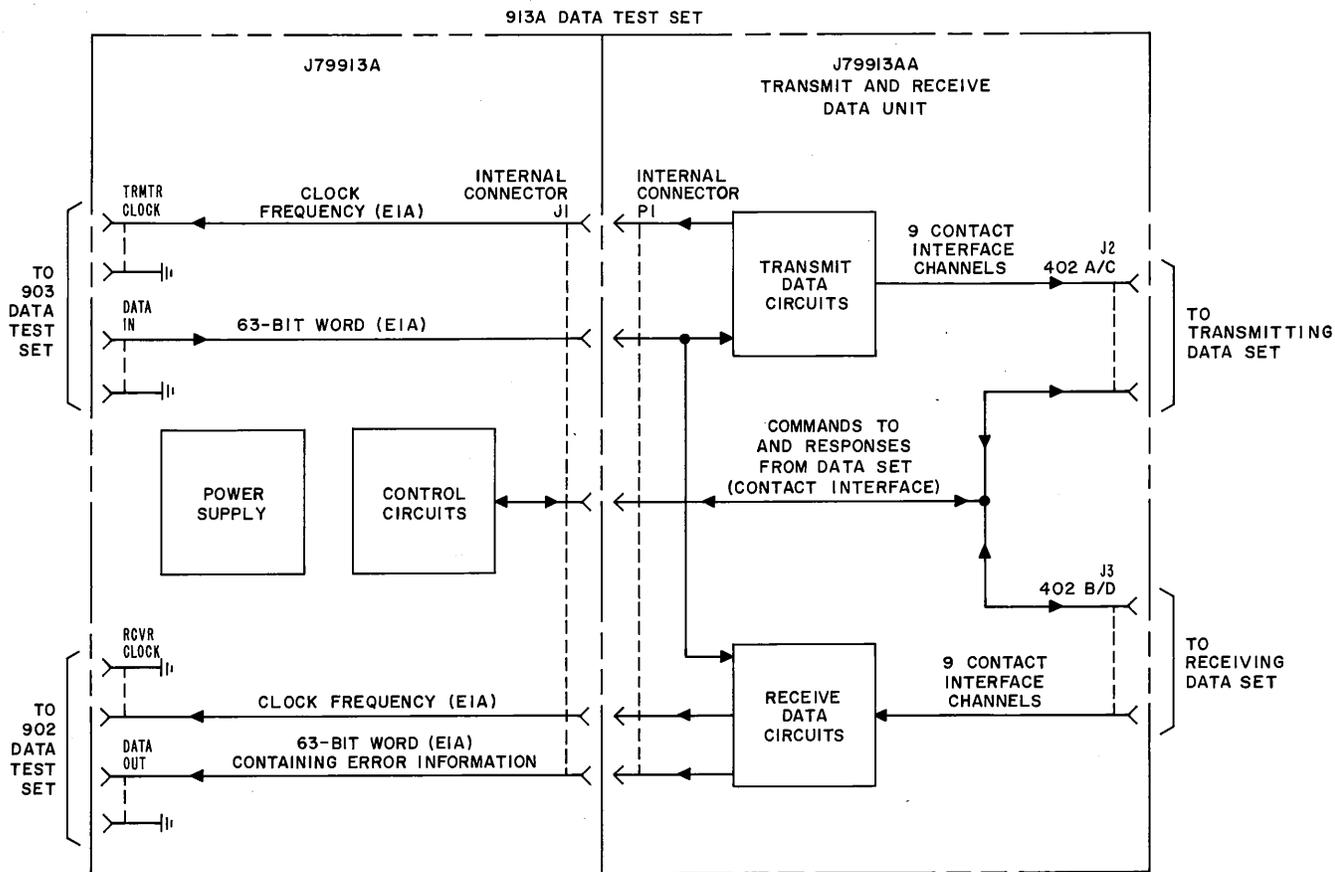

Fig. 4—Functional Block Diagram of 913A Data Test Set (Parallel Adapter)
3.01 Functionally, the 913A Data Test Set is composed of four basic circuits which are power supply, control circuitry, transmit circuitry, and receive circuitry (Fig. 4).